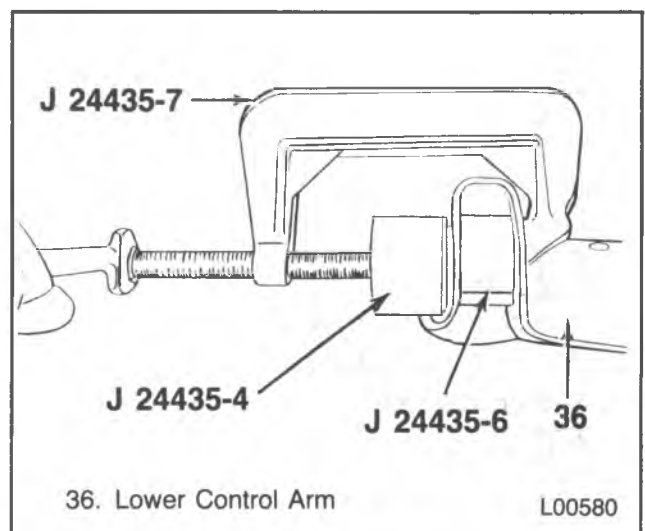

Figure 28 — Removing or Installing the Lower Control Arm Bushings (R10/1500, G10/1500 and G20/2500 Models)
3. Shock absorber (20) from the lower control arm (28).
4. Nuts (38), washers (39 and 41), clamp (42) and bolts (43).
5. Stabilizer bar (59) from the lower control arm (28).
6. Loosen the pivot shaft end nuts (24); do not remove.
7. Nuts (49), washers (48) and U-bolts (44).
- SLOWLY lower the floor jack until all compression is released from the spring (32).
10. Bushings (46) and the pivot shaft (50) from the lower control arm (36).
- Use J 24435-2, J 24435-3, J 24435-6 and J 24435-7 (figure 28).
- The pivot shaft (50) will slide out of the lower control arm after one bushing is removed.
- Leave the pivot shaft (50) inside the lower control arm (36) to remove the remaining bushing.
1. New bushings (46) and the pivot shaft (50).
- Use J 24435-4, J 24435-6 and J 24435-7 (figure 28).
2. Lower control arm (36) to the frame.
- SLOWLY raise the floor jack until the front indexing hole in the pivot shaft (50) lines up with the crossmember attaching studs.
- Do not damage the ball joint (37).
3. U-bolts (44), washers (48), and nuts (49).
2. Pivot shaft nuts (24) and washers (25).
3. Rear bushing (46).
- Press the front end of the pivot shaft (50) to remove the rear bushing.
4. Front bushing (46).
- Tighten J 24435-7 to remove the bushing (figure 28).
1. New bushing (46) using J 24435-6, J 24435-4 and J 24435-7 (figure 28).
2. Pivot shaft (50) into installed bushing.
3. Remaining bushing (46) into the lower control arm.